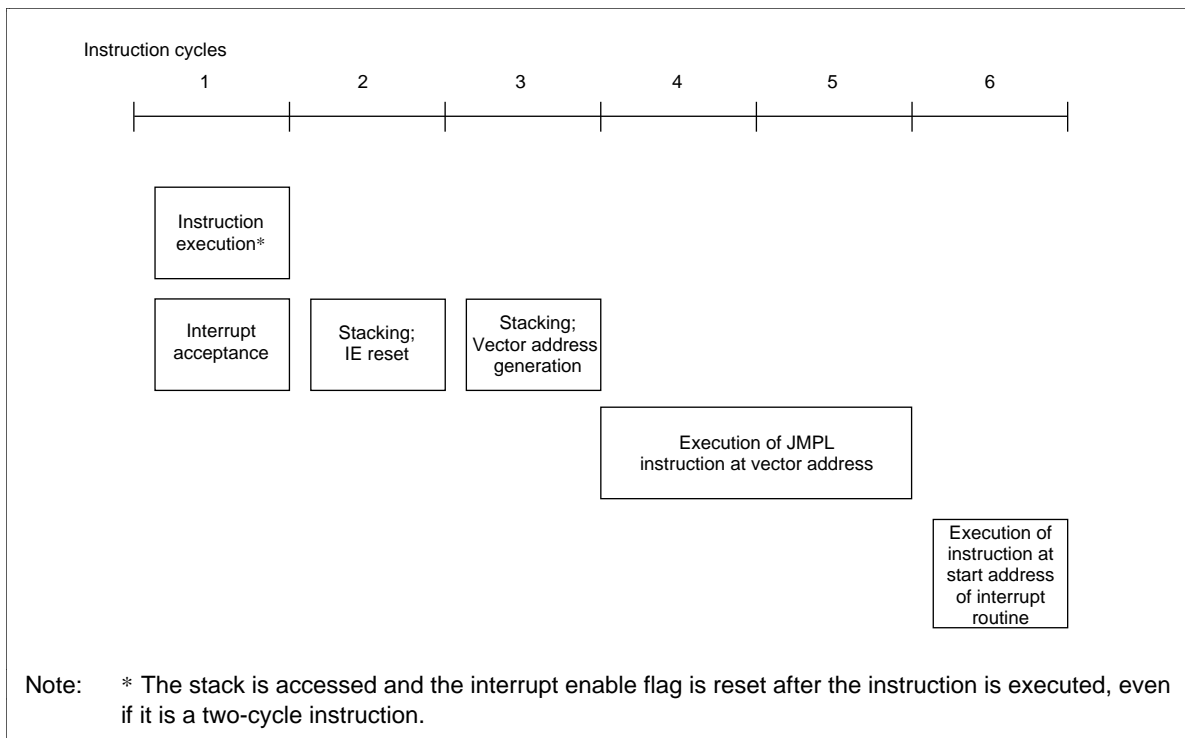
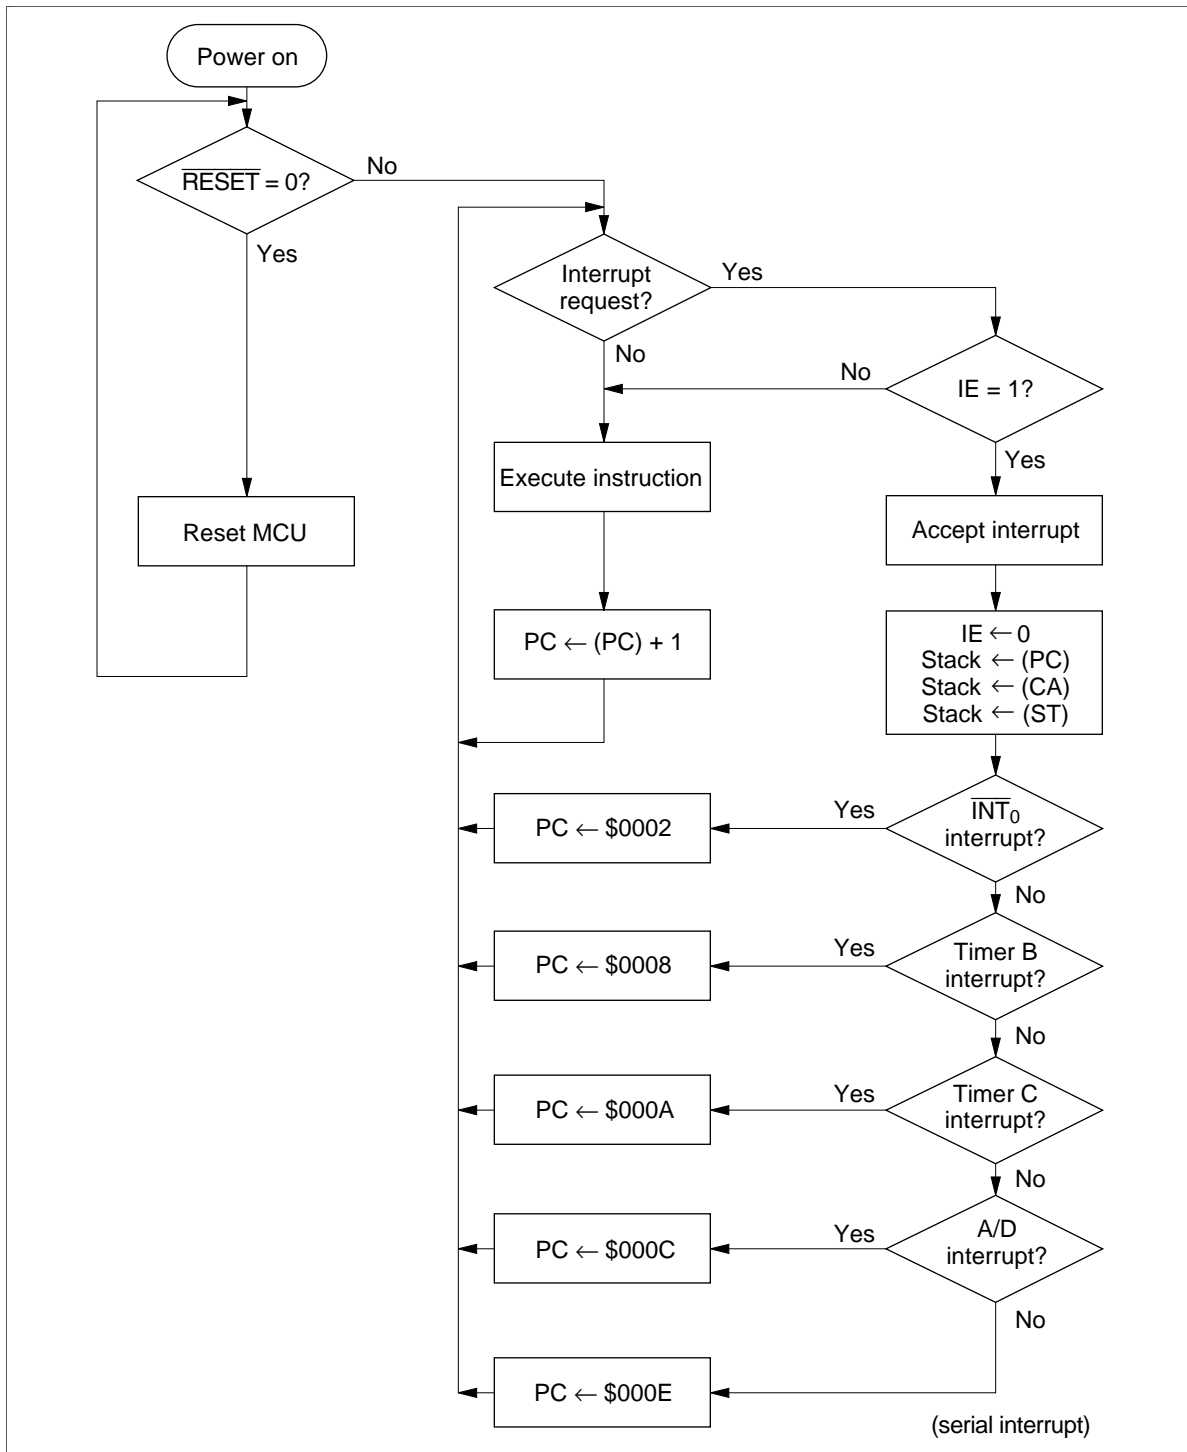

Figure 9 Interrupt Processing Sequence
Figure 10 Interrupt Processing Flowchart
The interrupt processing sequence is shown in figure 9 and the interrupt processing flowchart is shown in figure 10. After receiving an interrupt, the previous instruction is completed in the first cycle. The interrupt enable flag (IE) is reset after two cycles. The contents of the carry flag, status flag, and program counter are stored onto the stack at the second and third cycles. Instruction execution is restarted by jumping to the vector address during the third cycle. The JMPL instructions, which branch to the start addresses of the interrupt routines, should be programmed at each vector address area. The interrupt request which initiated the interrupt processing should be reset by software instructions in the interrupt routine.